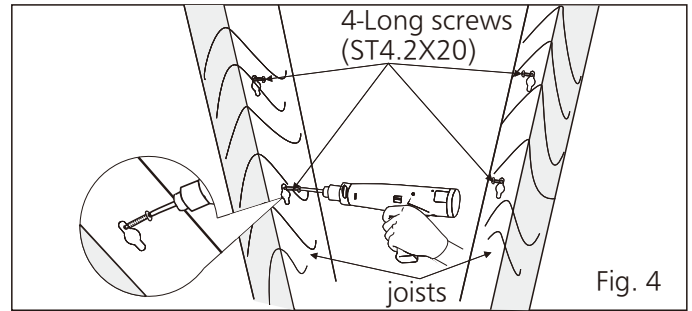

Fig. 4
4. Fix four long screws (ST4.2X20) partially into joists at the four marked locations. (Fig. 4)